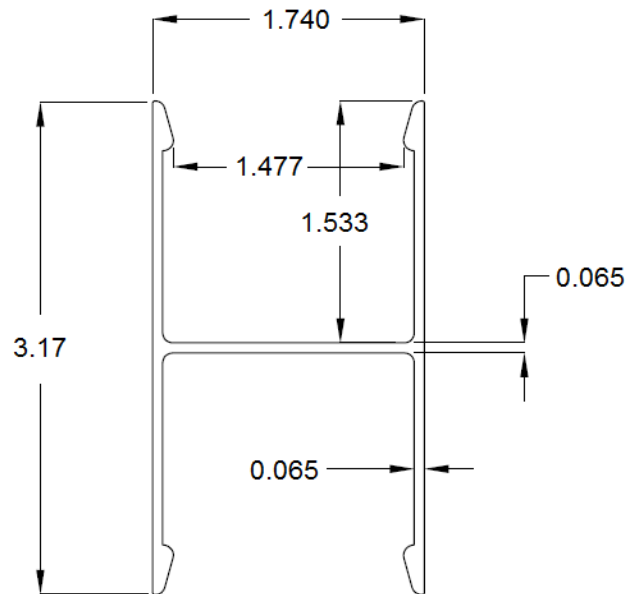

FIGURE 6 – ALUMINUM "ALTERNATE" H INSERT
3.1.6.1 An extruded aluminum insert provides reinforcement in the top rail and bottom rail. See Figures 6 and 7.